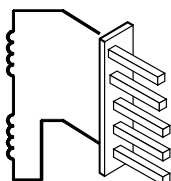

Figure 5
- 3) Measure the electrical resistance between the connector pins of the on-off operators as illustrated in Figure 5.